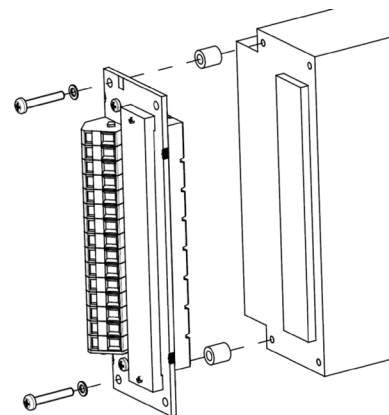

Fig. 44
- Cage clamp adapter HZZ00144-G; see fig. 44